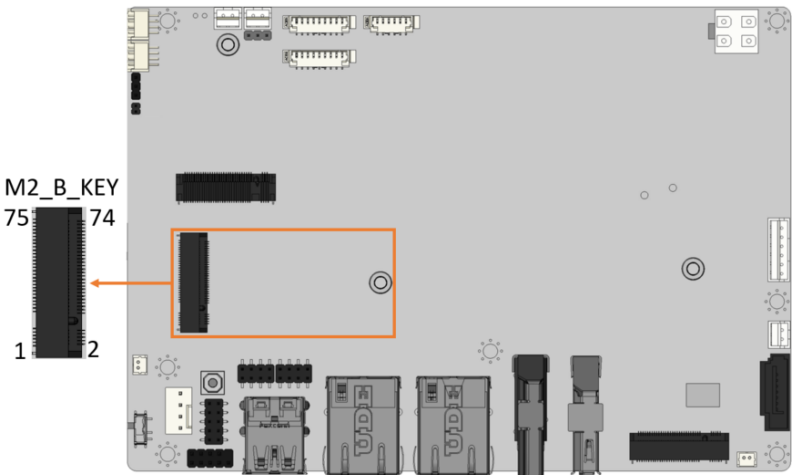

Figure 4-20: M.2 B-key Slot Location
- CN Location: See Figure 4-20